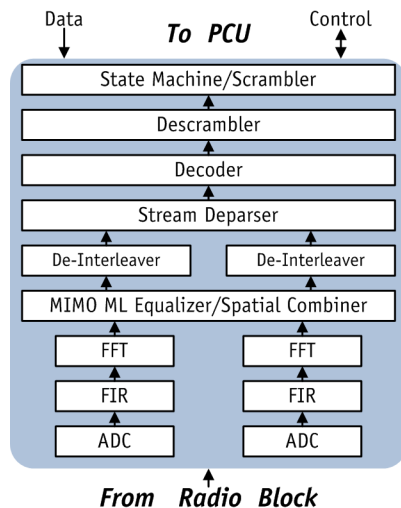

Figure 5-2 Digital PHY 802.11n Rx
Figure 5-2 shows the Rx path digital PHY 802.11n (MIMO mode) block diagram.
The receiver inverts the transmitter's steps, performing a fast Fourier transform (FFT), extracting bits from received constellations, de-interleaving, accounting for puncturing, decoding, and descrambling. The Rx block shows 2x2 MIMO configuration. Figure 5-2 shows a frequency-domain Maximum Likelihood (ML) equalizer handling degradation due to multi-path.